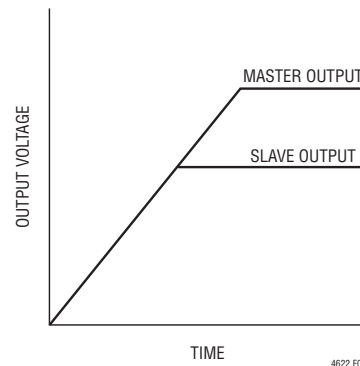

Figure 6. Output Coincident Tracking Waveform
The Coincident output tracking can be recognized as a special Ratiometric output tracking which the master's output slew rate (MR) is the same as the slave's output slew rate (SR), as waveform shown in Figure 6.